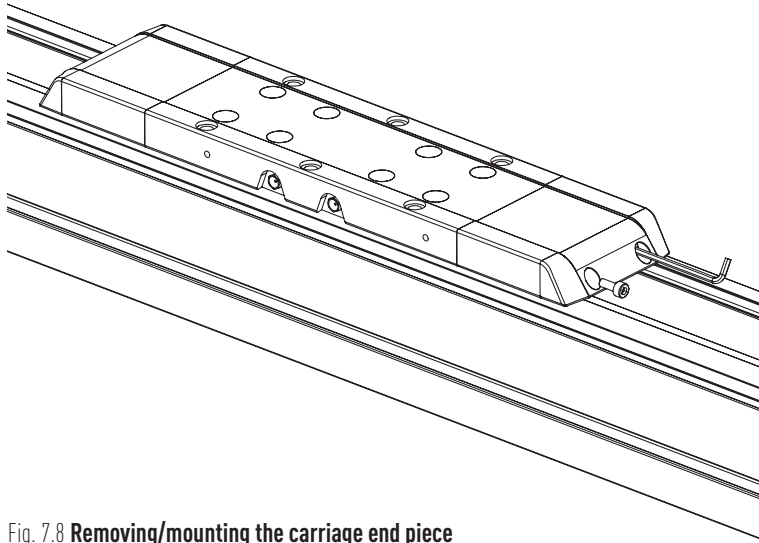

Fig. 7.8 Removing/mounting the carriage end piece
- ▶ Undo the carriage end piece screws. Remove the end pieces from both ends of all carriages (see Fig. 7.8).
- ▶ Place the carriage end pieces on the cover strip deflection as shown in Fig. 7.8 and hand-tighten the mounting screws.